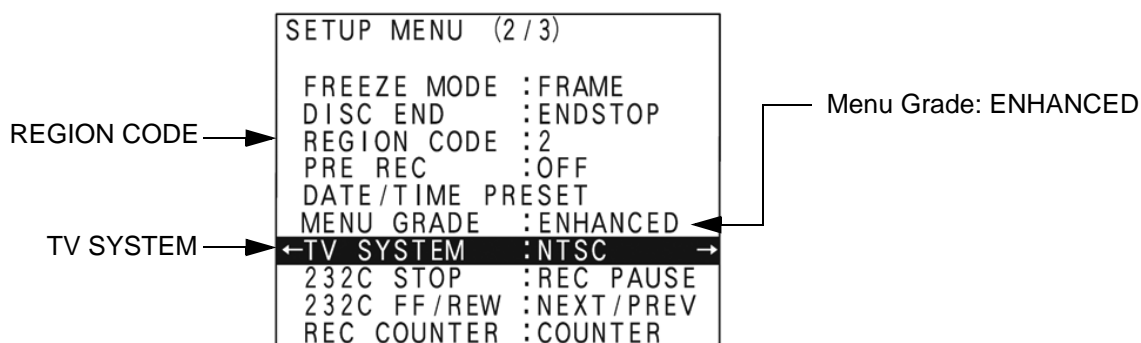

Figure 3-15 "Setup Menu" - [TV SYSTEM] highlighted
NOTE: Now additional items (see: Figure 3-15 on page 3-20) are displayed in the "Setup Menu".
- 5.) Press the \rightarrow (right) button. The “Setup Menu” appears, see Figure 3-15 on page 3-20.
- 9.) Press the **SET** button (C).